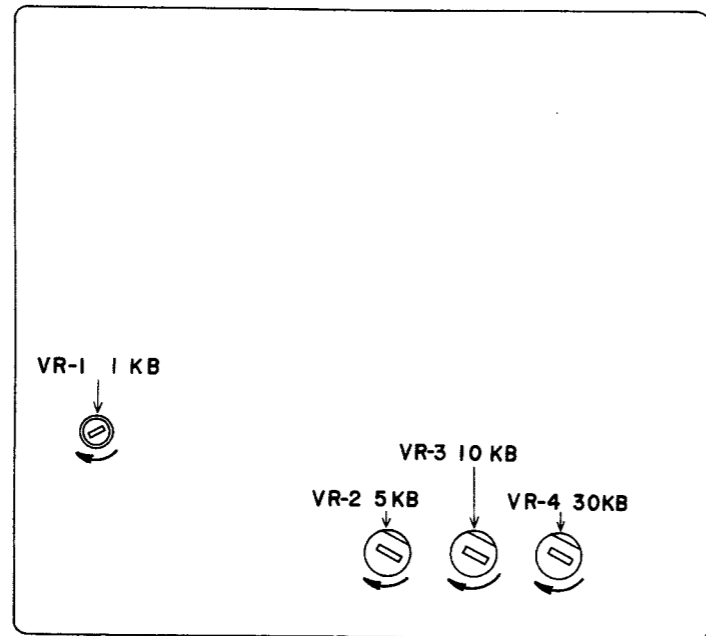

Fig. 22 Servo P.C Board TW-1049 5ED
2. TAPE SPEED ADJUSTMENT (Refer to Fig. 22)